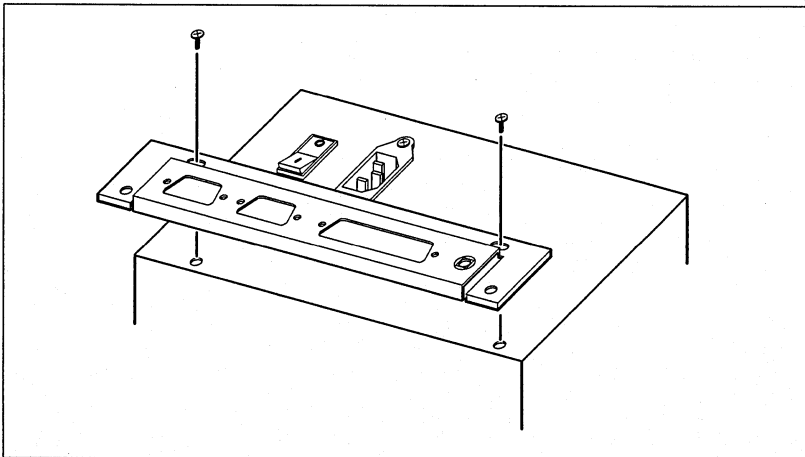

fig. A-17
2. Mount the I/O bracket on the power supply (fig. A-17).